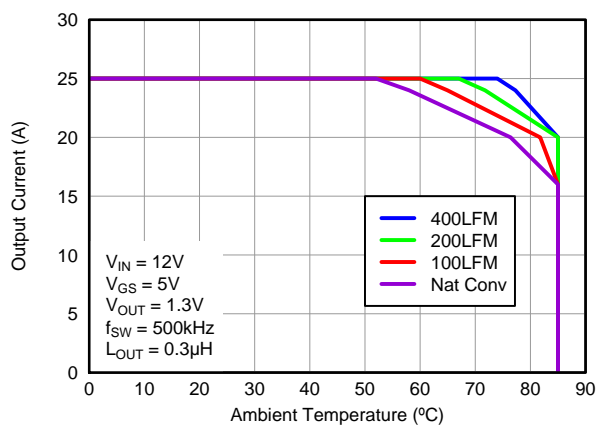
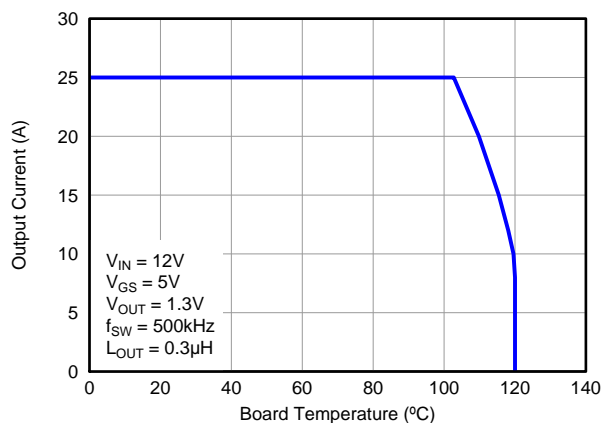

Figure 3. Safe Operating Area – PCB Vertical Mount(1)
Figure 5. Typical Safe Operating Area(1)
The SOA curves in the CSD87352Q5D data sheet provides guidance on the temperature boundaries within an operating system by incorporating the thermal resistance and system power loss. Figure 3 to Figure 5 outline the temperature and airflow conditions required for a given load current. The area under the curve dictates the safe operating area. All the curves are based on measurements made on a PCB design with dimensions of 4" (W) x 3.5" (L) x 0.062" (T) and 6 copper layers of 1 oz. copper thickness